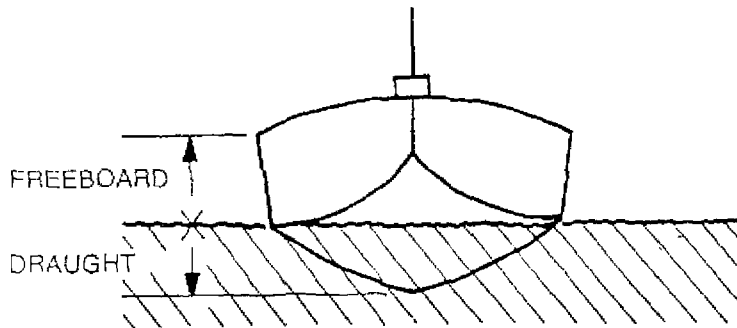

Figure 5:2
- (6) FOREDECK - A small deck at the front of the hull.
- (7) FREEBOARD - Height between water line and the gunwale. (see Fig 5:2)
- (8) GUNWALE - (pronounced gunnel) The continuous strip around the top of the hull.
- (9) HULL - The main body or shell of the boat.
- (10) KEEL - The member joining the two halves of the hull bottom usually along the hull centre line.
- (11) KEELSON - A reinforcing member to protect the keel and assist in directional stability.
- (12) ROWLOCKS - The brackets which are used as pivot points between the hull and the oars.
- (13) STEM - The rising or vertical section at the front of the boat where the hull sides meet to form the bow.
- (14) THWARTS - The seats built into the hull. Originally those that run across the hull. These often provide floatation and hull structural integrity.
- (15) TRANSOM - The flat back section of the boat joining the two hull sides to form the stern upon which an outboard motor may be mounted.
- (16) TUCK - The plywood section attached to the centre of the transom where the motor is clamped to the hull. It reduces slippage and wear when the motor is fitted.